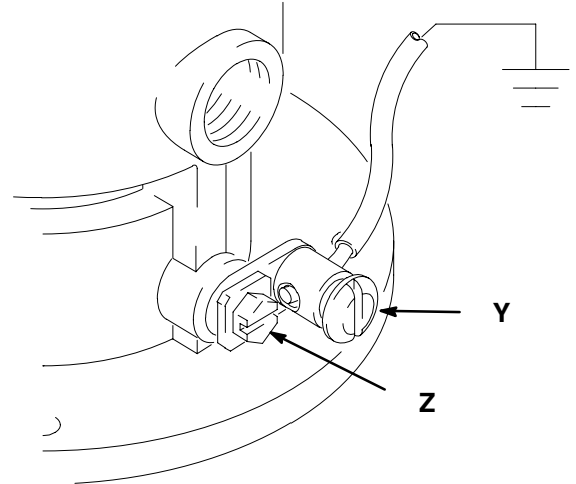

Fig. 2
To ground the pump, remove the ground screw (Z) and insert through the eye of the ring terminal at end of the ground wire (Y). Fasten the ground screw back onto the pump and tighten securely. Connect the other end of the ground wire to a true earth ground. See Fig. 2. *To order a ground wire and clamp, order Part No. 222011.*